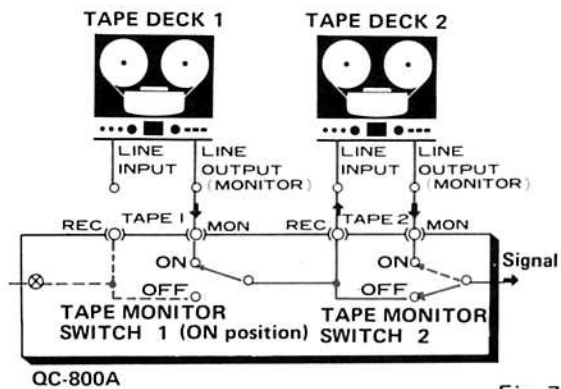

Fig. 7
1. Connect two tape decks as shown in Fig. 7.